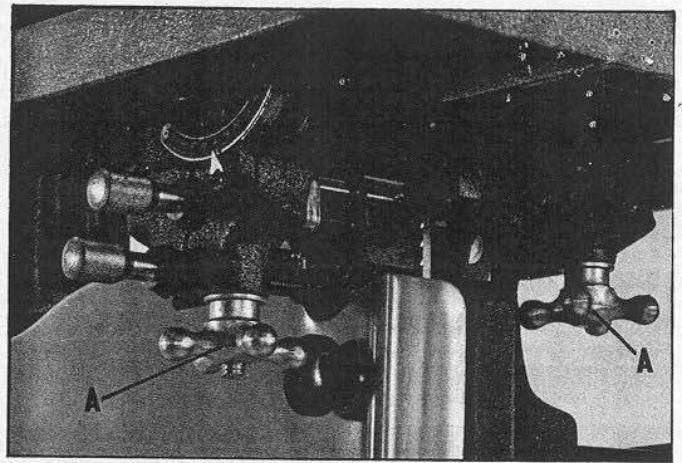

Fig. 11
The table on your band saw can be tilted 45 degrees to the right and 10 degrees to the left. To tilt the table, loosen the two star wheels (A) Fig. 11, tilt the table to the desired angle and tighten the two star wheels (A).